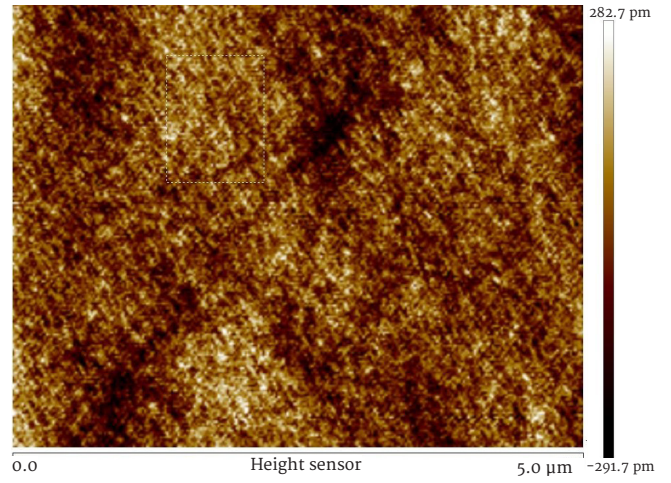

Fig 6: Red Blood cells in Fluid mode
- Liquid-mode AFM for biological samples [Fig. 6]